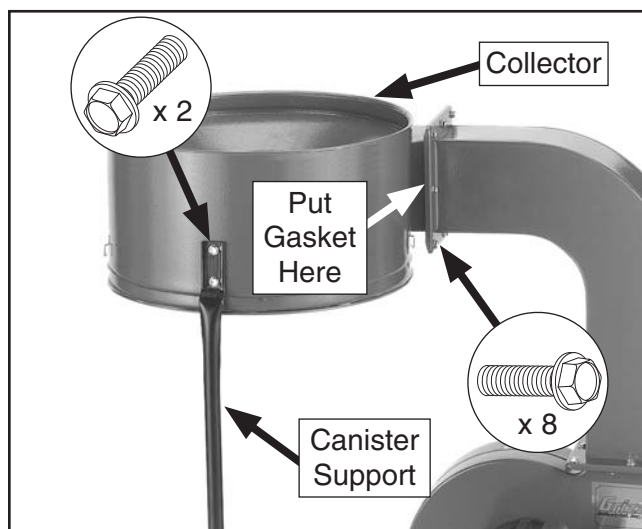

Figure 16. Collector installed.
7. With the help of another person, position the remaining rubber gasket on the rim of the outlet connector, mate the rim of the collector with the connector, and secure it in place with (8) $\frac{5}{16}$ -18 x $\frac{1}{2}$ " flange bolts, as shown in **Figure 16**.
8. Attach the top of the canister support to the collector with the remaining two $\frac{5}{16}$ -18 x $\frac{1}{2}$ " flange bolts, as shown in **Figure 16**.